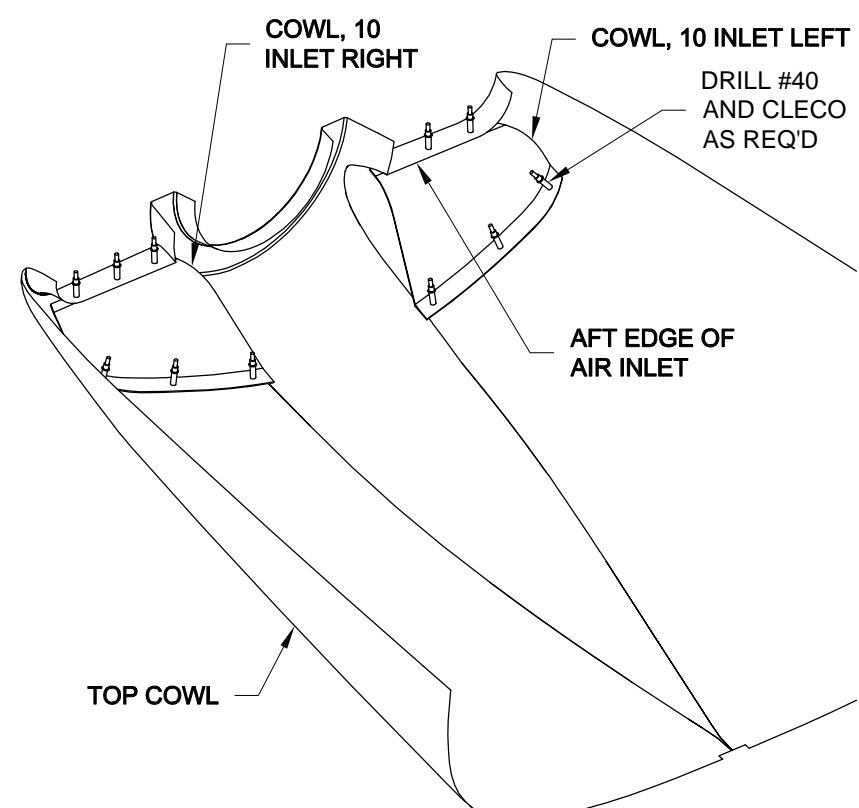

FIGURE 3: INSTALLING THE INLET RAMPS
Step 8: Fit the COWL, 10 INLET LEFT and RIGHT (called inlet ramps throughout the remainder of this section) to the top cowl, trimming and sanding as necessary for a good fit. See Figure 3.
Step 9: Drill #40 and cleco the inlet ramps in place. (The holes can be easily filled when finishing the outside surface of the cowl). See Figure 3. Remove the inlet ramps.